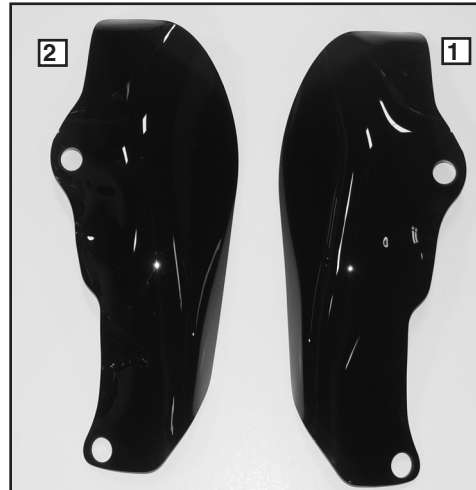

Figure 1
1. Identify left from right Heat Deflector. **Figure 1**